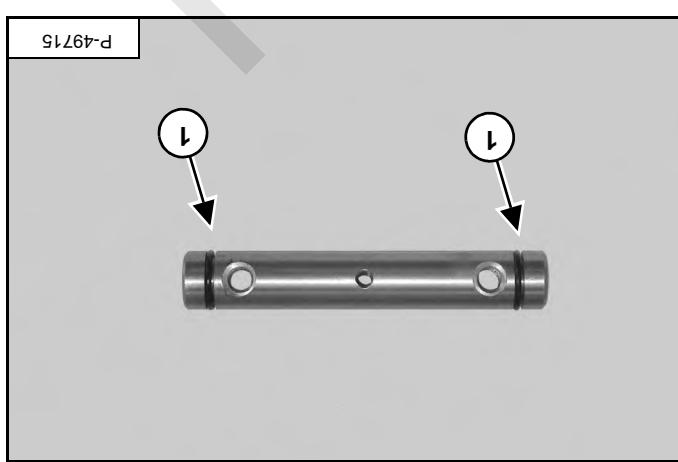

Figure 80
Apply grease to the O-rings (item 1) [Figure 80].